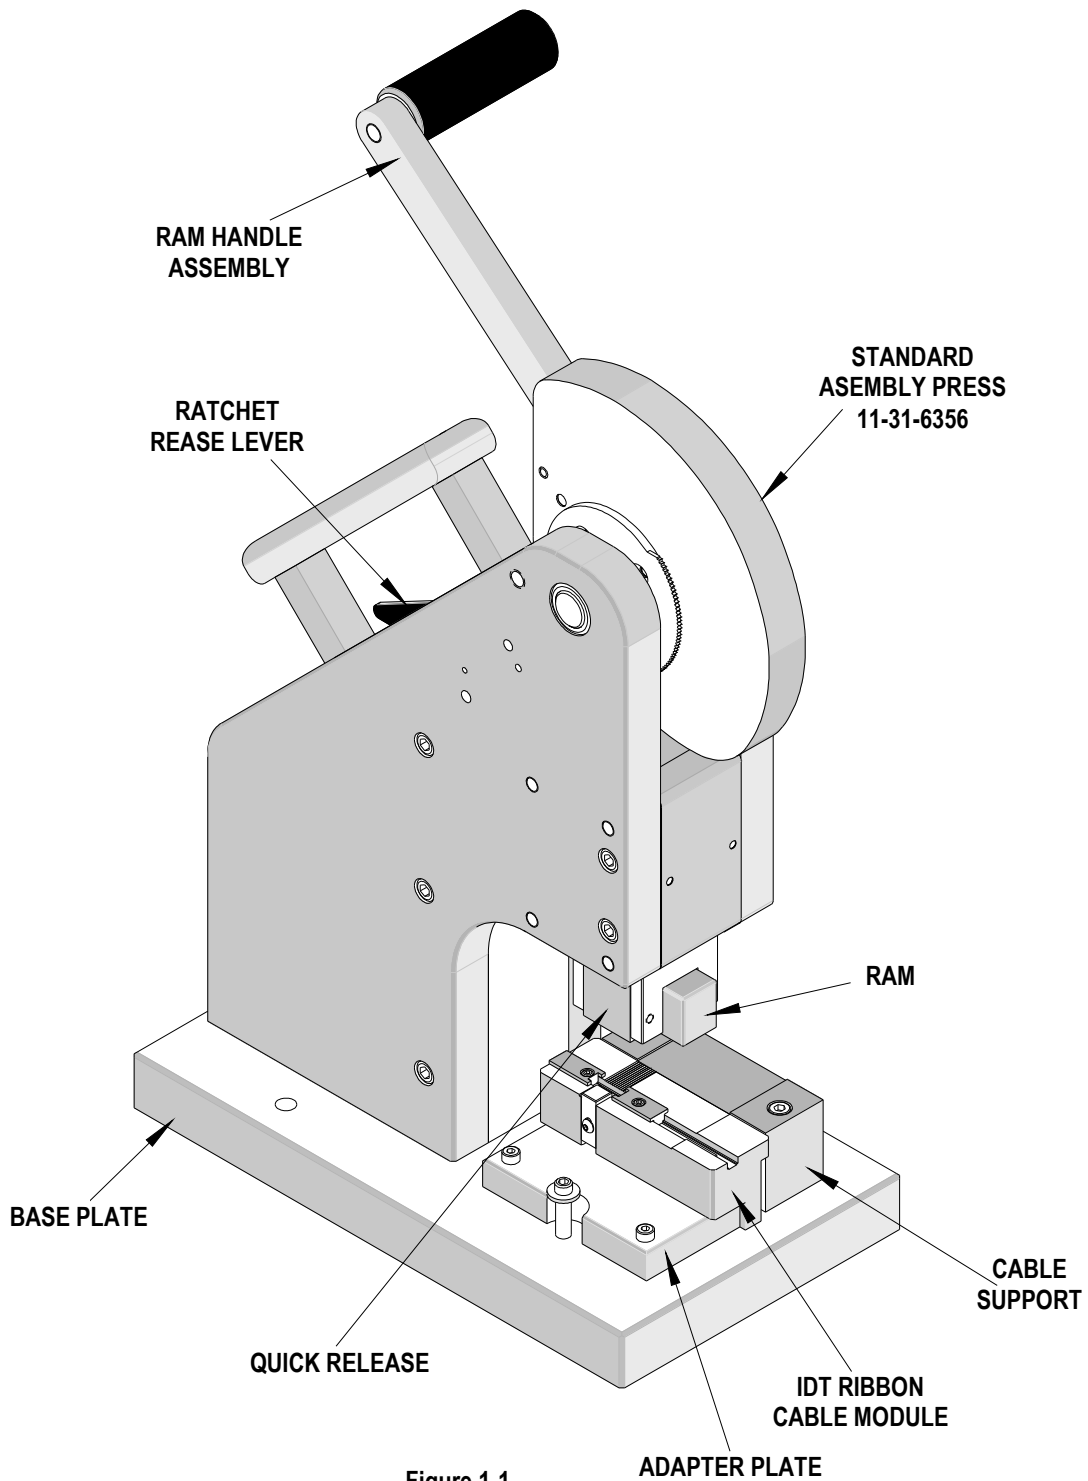

Figure 1-1
The 62100-2200 comes with the tooling already installed. See Figure 1-1. If the 62100-3200 Tooling Kit is not installed in the Press, follow the steps below:
7. Mount this assembly to the press base plate with the two (2) M4 SHCS. See Figure 1-1.
**NOTE:** The tooling can be mounted for left or right hand operation. Figure 1-1 shows the tooling mounted for left hand operation. There is